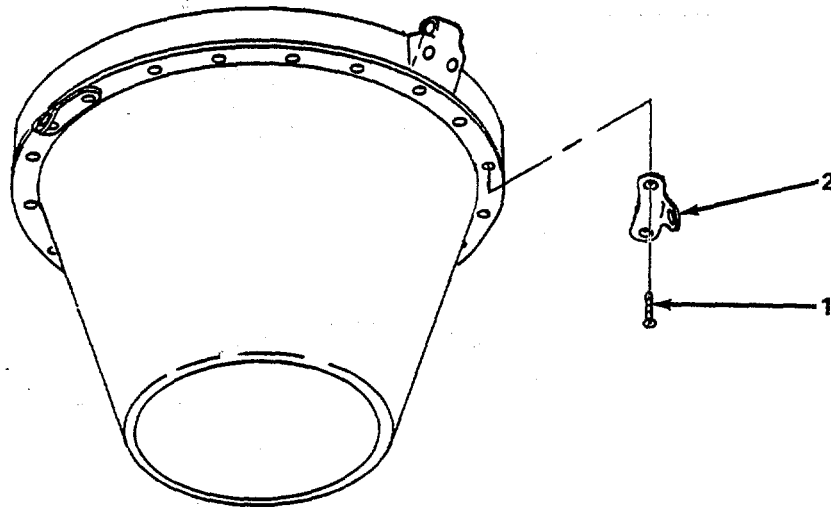

Figure 5-2. Jocking Harness Bracket, Replace.
(2) *Replace jocking harness bracket.* (figure 5-2).